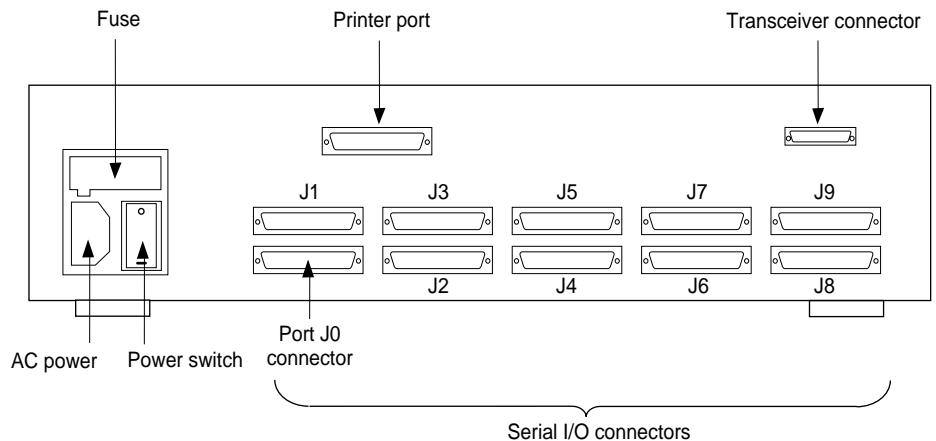

Figure 1-5 CS/2500 and CS/2600 Back Panel
The CS/2500 and CS/2600 back panel, shown in Figure 1-5, contains the power supply module and three types of connectors:
**Transceiver Connector**      The CS/2500 series provides an Ethernet network interface (labeled 802.3 Transceiver) at the upper right corner of the back panel (see Figure 1-5). This connector is a female DB-15 equipped with a slide lock.
**Printer Port Connector**      The CS/2500 series includes a printer interface port to connect the server to parallel printers with Centronics printer interfaces. The printer port (labeled Parallel Printer) is located at the top left center of the back panel (refer to Figure 1-5). For information on cabling the server to the printer, refer to Chapter 2, “Installation.”